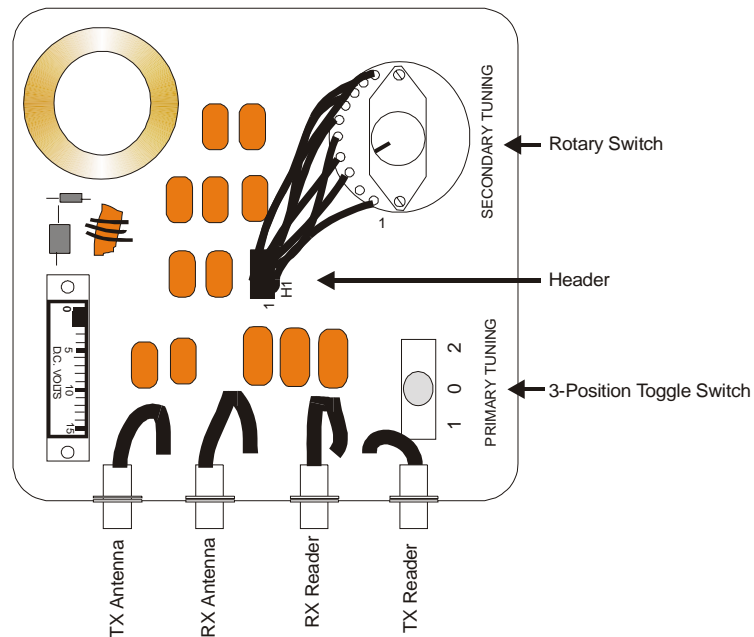
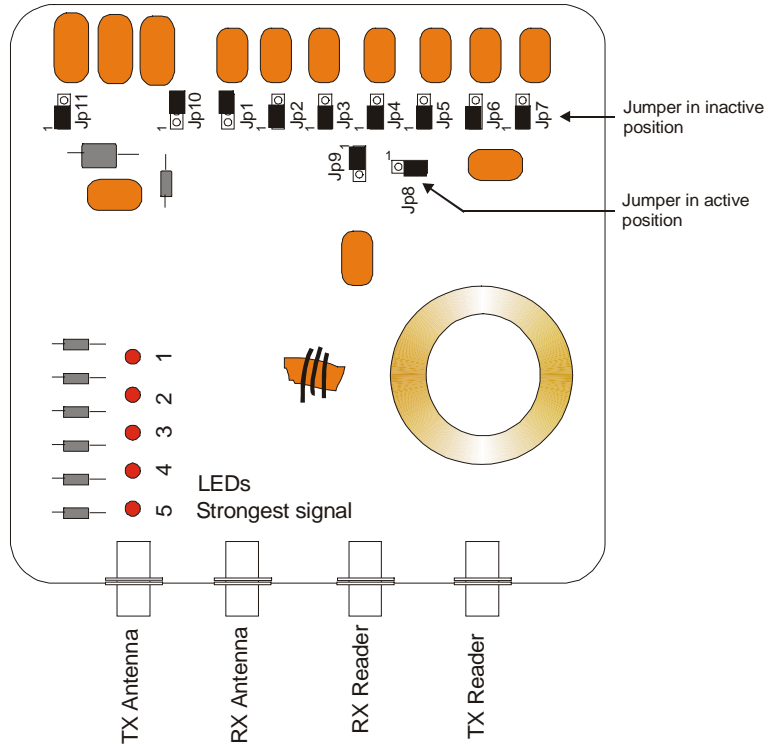

Figure 30 ATU with toggle and rotary switches
Figure 33 ATU with jumpers in original positions
Step 3: Open the ATU cover. NOTE! You will see **either** a toggle switch and rotary dial (Figure 30) or a series of 11 jumpers (Figure 33). To tune an ATU with jumpers, see page 75.
Step 1: **IMPORTANT!** Ensure that the wires running from the toggle switch are plugged into the header. This sometimes disconnects during shipping. The connector should be oriented such that position 1 on the rotary dial is connected to pin 1 on the header (Figure 30).
When you open the ATU, the jumpers will be in the positions shown in Figure 33. The goal is to set the jumpers so that largest voltage is produced, as shown by the strength of the five LEDs.